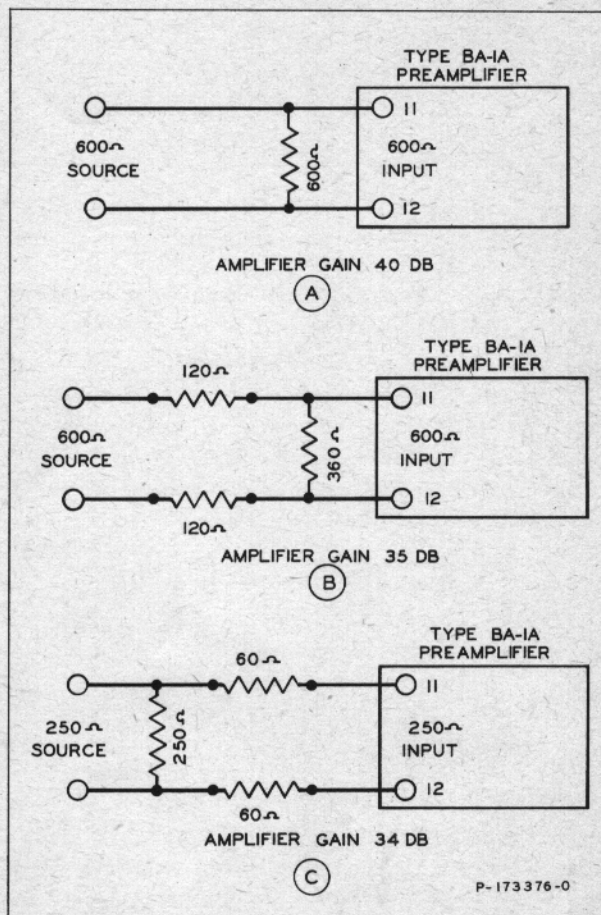

Figure 5—Preamplifier input networks.
of input circuit performs most satisfactorily when the amplifier is operating directly from microphones or low-impedance turntable pickups (for example, the Type 70-C1 and Type 70-C2 turntables). When it is desired to use the amplifier as a line booster it will be necessary to connect a resistive network ahead of the input transformer to provide a constant-impedance input. Figure 5 illustrates networks for use with balanced lines from 600-ohm and 250-ohm sources.
13. When the input circuit operates from an unbalanced source (for example, series-parallel mixers) the grounded side of the incoming line must connect to terminal number 12 of the connection socket. The resistive networks shown in figure 5 can be used with the following alterations:
a. Referring to figure 5-B, remove the lower 120-ohm resistor and replace the upper 120-ohm resistor with one of 240 ohms.
b. Referring to figure 5-C, remove the lower 60-ohm resistor and replace the upper 60-ohm resistor with one of 120 ohms.